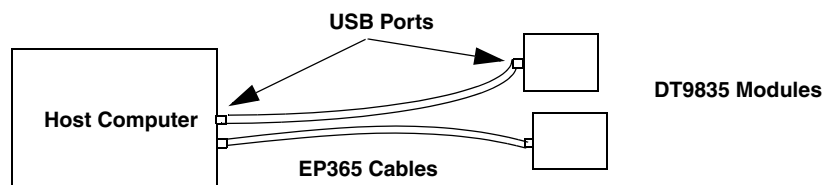

Figure 2: Attaching the DT9835 Module Directly to the Host Computer
2. Attach the other end of the EP365 cable to one of the USB ports on the host computer, as shown in Figure 2.